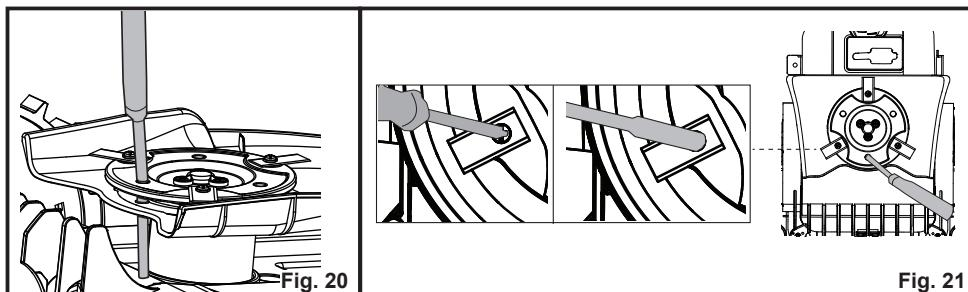

Fig. 21
5. Wear protective gloves and use a screwdriver or hexagonal socket wrench to remove all three screws and blades (Fig. 21).